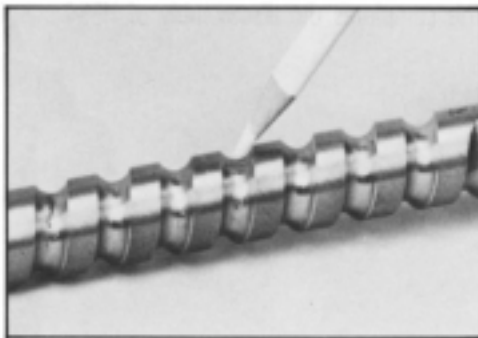
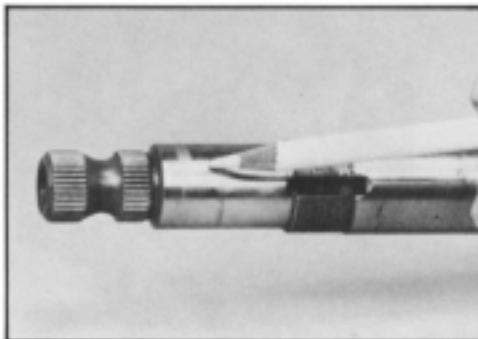

Figure 90
Figure 91
3. Inspect the worm shaft (23) ball track grooves for brinelling or spalling. SEE FIGURE 90. If either condition exists, you must replace the worm shaft, rack piston (39), and the set of service balls (34). Visually inspect the sealing surface on the worm shaft for nicks, and run your fingernail edge across the sealing surface to detect steps. These conditions would require worm shaft replacement and a service ball kit. If discoloration from excess heat is detected replace worm shaft, valve rack piston, adaptor and upper cover assembly. SEE FIGURE 91.